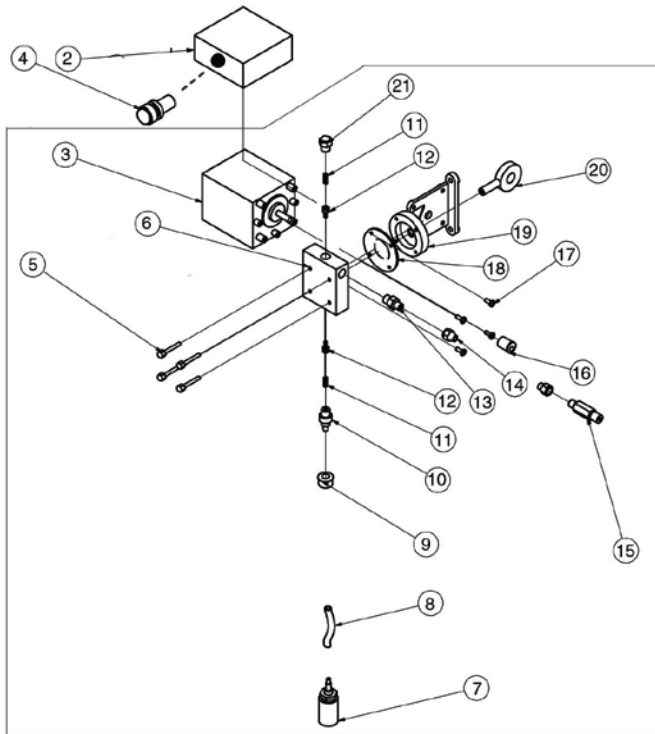

Figure 4-45-1
- 3) Remove the four mounting screws (Figure 4-45-1, Pc. 5) and remove the head from the Pump Head Base.
- 4) Remove the Top Cap (Figure 4-45-1, Pc. 21) and then remove the Spring (Figure 4-45-1, Pc 11) and the Poppet Check (Figure 4-45-1, Pc. 12). Repeat this procedure for the Bottom Adaptor (Figure 4-45-1, Pc.10)
- 7) Before remounting the Pump Head, inspect the Diaphragm (Figure 4-45-1, Pc. 18) for cracks or holes. Replace if necessary. To remove the Diaphragm unscrew counter clockwise.
3. Brass Check Valve (Refer to Figure 4-41-1 and Figure 4-45-1, Pc. 15).